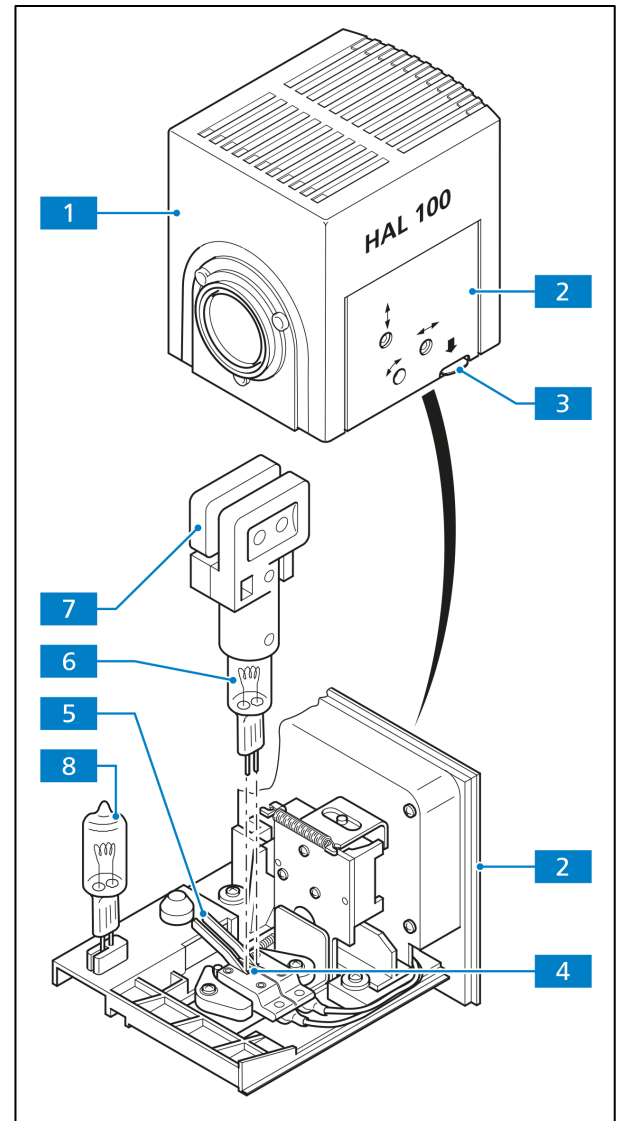

Fig. 3-31 Changing the HAL 100
<p>Before switching on the halogen illuminator, remove the tools (Fig. 3-31/7) included in the illuminator case to prevent them from being damaged by heat.</p>
- Press the release button (Fig. 3-31/3) of the halogen illuminator HAL 100 (Fig. 3-31/1). Pull the lamp carrier (Fig. 3-31/2) out completely and put it aside.
- Press both spring levers downwards (Fig. 3-31/5) and pull out the old halogen lamp (Fig. 3-31/6) in an upward motion.
- Press both spring levers downwards, insert the new lamp into the lamp cap (Fig. 3-31/4) and release the spring levers. Use only the included special tools (Fig. 3-31/7) when holding/grabbing the halogen lamp. Traces of skin grease on the halogen lamp can impair its life span.
Before switching on the halogen illuminator, remove the tools (Fig. 3-31/7) included in the illuminator case to prevent them from being damaged by heat. The replacement lamp (Fig. 3-31/8) may remain in the illuminator case.